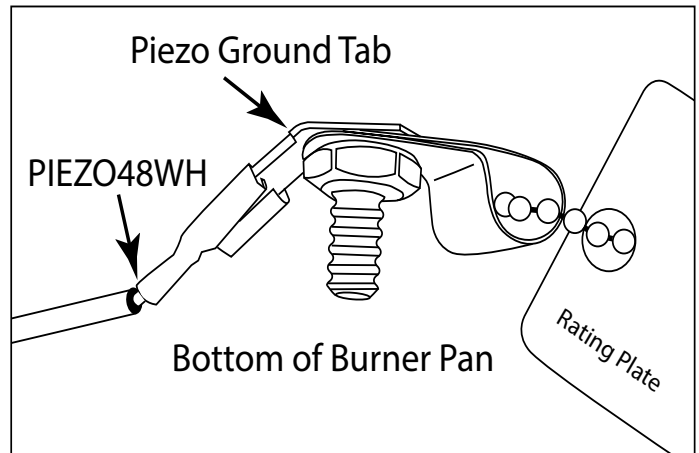

Fig. 9 Piezo ground tab location.
Step 9: Locate the Piezo ground tab. It will be attached to the screw holding the fire pit rating plate. See Figs. 9 & 10. Connect one end of the PIEZO48WH wire to the ground tab. **Note:** Ensure screw and nut are tight securing the ground tab..